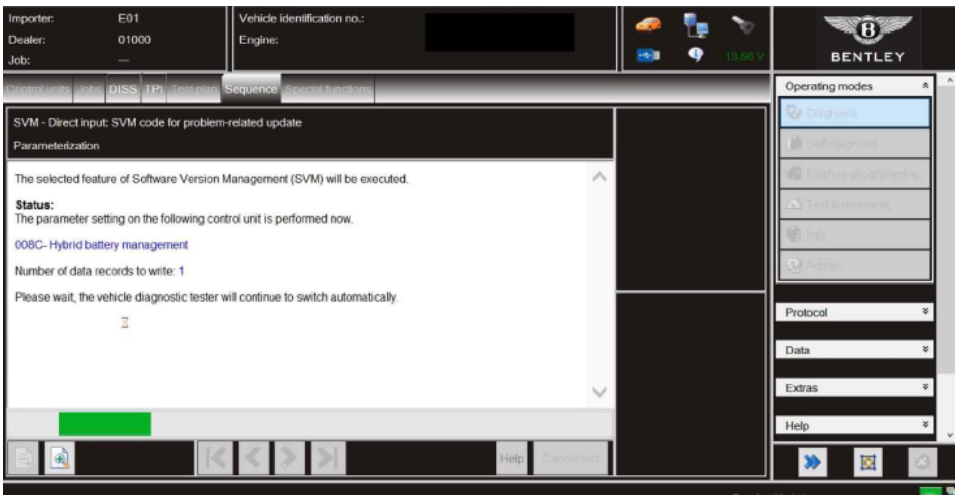

Figure 5
4) Referring to Figure 5, once the update is complete, the parameters will then be applied